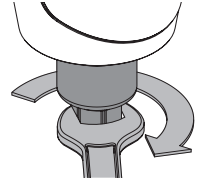

Fig. 8.9
- / As shown in Fig. 8.9, grip the flats of the maintenance nut with an open-end spanner SW27
- / as shown in Fig. 8.9, turn the spanner in the direction of the arrow to loosen the filter cap. Remove the filter cap